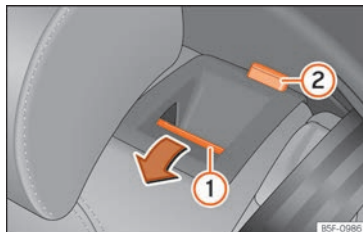

Fig. 64 Rear seat: folding down the backrest.
- Press the unlock button >>> Fig. 64 ① forwards and at the same time fold the backrest down. The rear seat backrest is not engaged when the red marking of the button ② is visible.